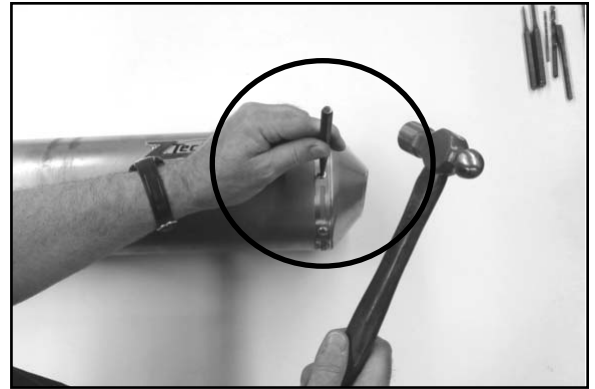

Figure 3
1.Center punch rivet centers at the outlet end of the muffler. (Center punch and Hammer.) **Figure 3.**